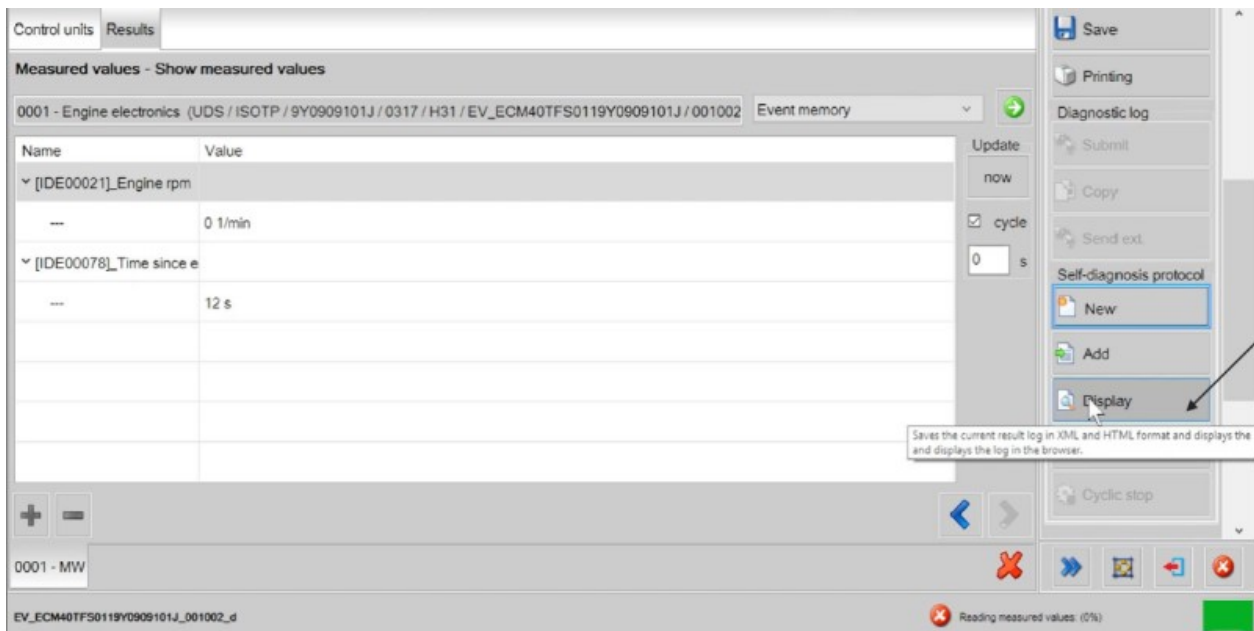

Figure 7
7) Select Display (Figure 7) this will save the log in HTML and XML format and open the HTML file